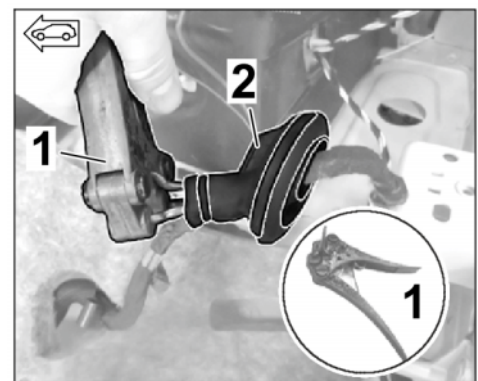

Figure 37
3.3.7 Guide the new branch for the exhaust flap (left/right) through the new grommet (left = \varnothing 66.5 mm/2.6 in, right = \varnothing 46 mm/ 1.8 in \Rightarrow Figure 37) using three mandrel pliers and an auxiliary line (Tekalan or Teflon tube).